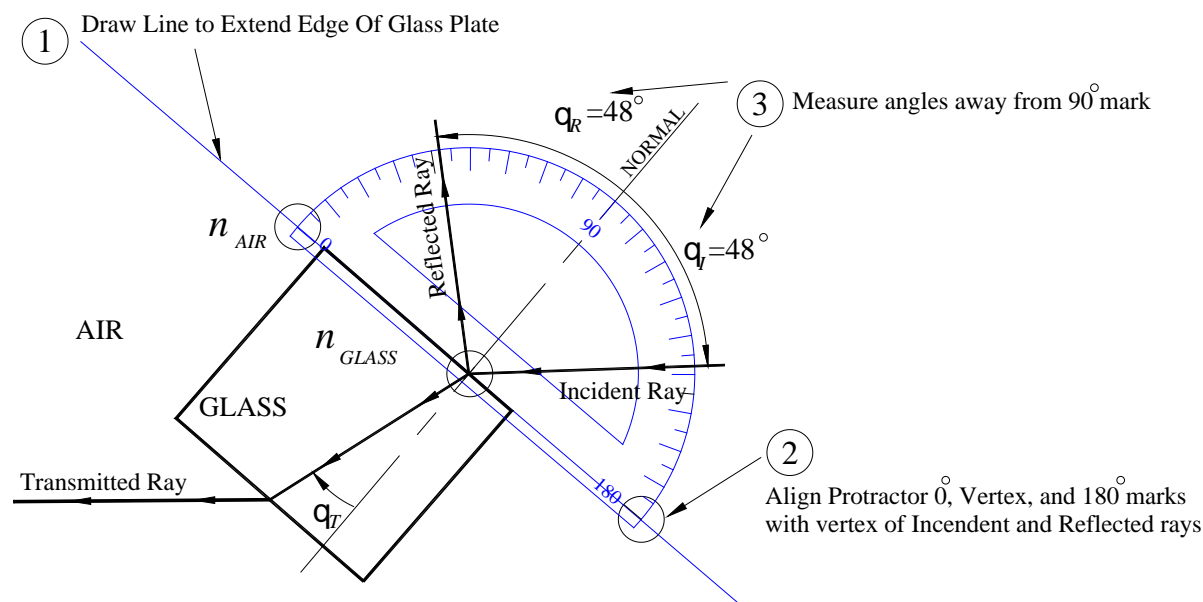

Figure 2 Diagram showing the typical path of light rays as they enter and leave a glass plate.
Figure 2 shows a top view of what happens to the light rays before and after they strike the glass plate. By moving a pin around the surface of the paper, the path of the light can be traced as it enters and exits the glass. Small pin marks are made in the paper to locate the center
2) Use pins to trace out the path of the laser light ray incident to the glass. Take a pin and, while holding it perpendicular to the plane of the paper, move it around the paper where you think the laser beam might be. When the pin enters the beam, you should see a bright reflection on the paper. Try to center the pin in the beam and then make a small pinprick in the paper. Then move the pin along the expected beam path and make another pinprick in the center of the beam. The two pinpricks define points along the path of the beam. Use a ruler and pencil to connect the points. The line drawn should extend to the surface of the glass plate. Clearly label the direction of travel of the ray. Repeat the above procedure for the reflected ray and the transmitted ray. See Figure 2.
6) For the three sets of data from above, trace out the path of the refracted ray. You know where the light went in (the incident ray) and where it came out (the transmitted ray), so you should be able to trace the path it must have taken in the glass. Use a protractor to measure the angle of refraction, q_T . You may need to extend the refracted ray beyond the boundaries of the glass plate in order to measure the angle with the protractor. See Figure 2. Remember these angles are measured from the normal.